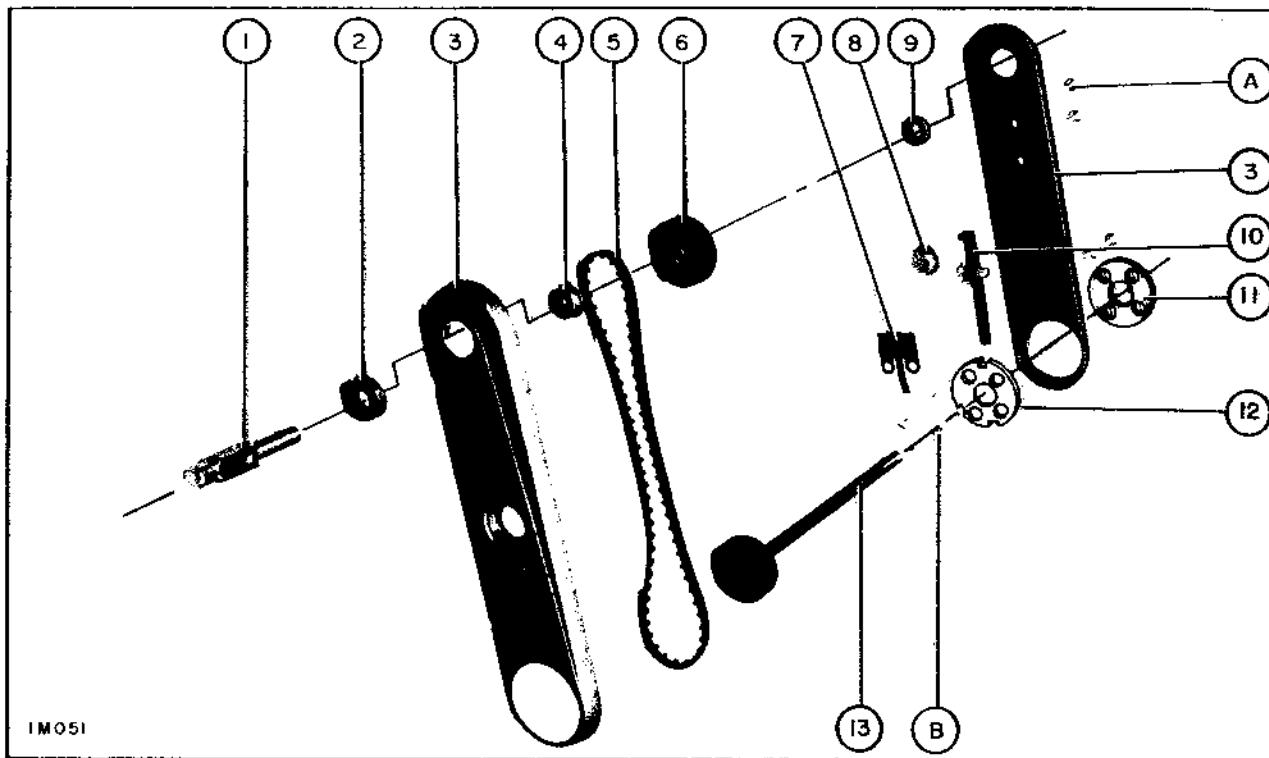

Figure 35
2. Remove screws **(A)** on rear of arm, remove front half and internal parts **(5)**, **(7)**, **(8)**, and **(10)**. (Figure 35).